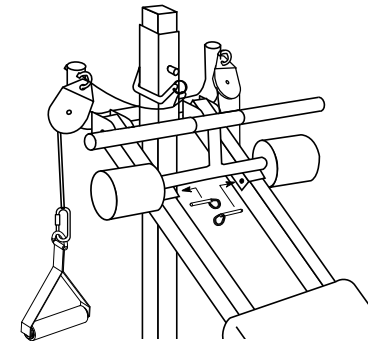

FIGURE 3
3. Insert the 2 Large Hitch Pins through the holes on the Multi Function Attachment Brackets and the hole on the Rails, as shown in Figure 3.